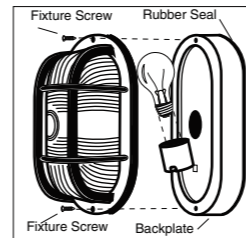

Figure 10
- For cage and dome assembly, unscrew fixture screws to remove cage and dome. Insert bulb. Install dome and cage over backplate secure with fixture screws (see figure 10).